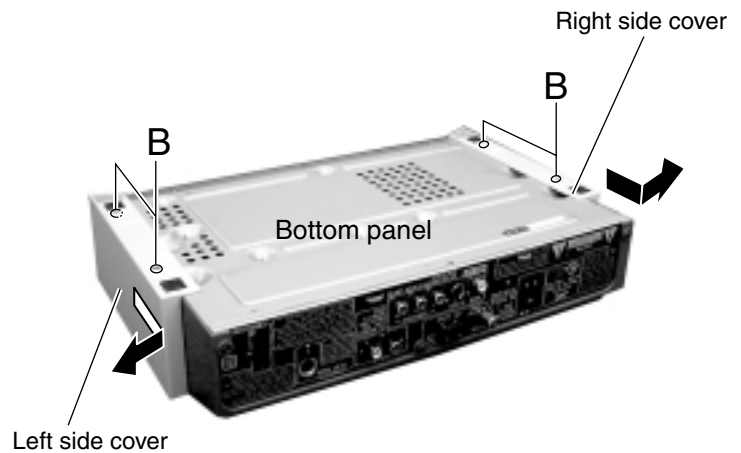

Fig.2
■ Removing the right and left side covers (See Fig.2)
1. Remove the four screws (B) that attach the left and right side covers of the unit, from the bottom panel.